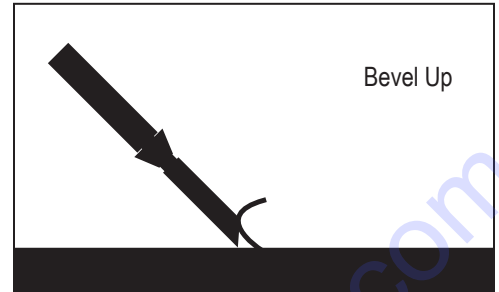
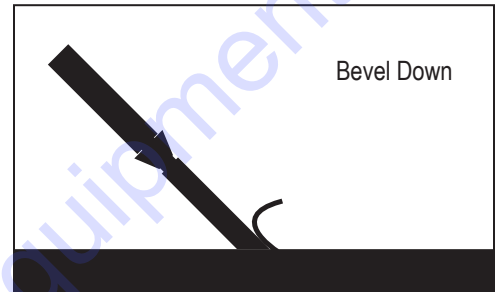

FIG. 7
FIG. 7.1
- Normally, bevel on blade is up for concrete (Figure 7); bevel down for wood (Figure 7.1)